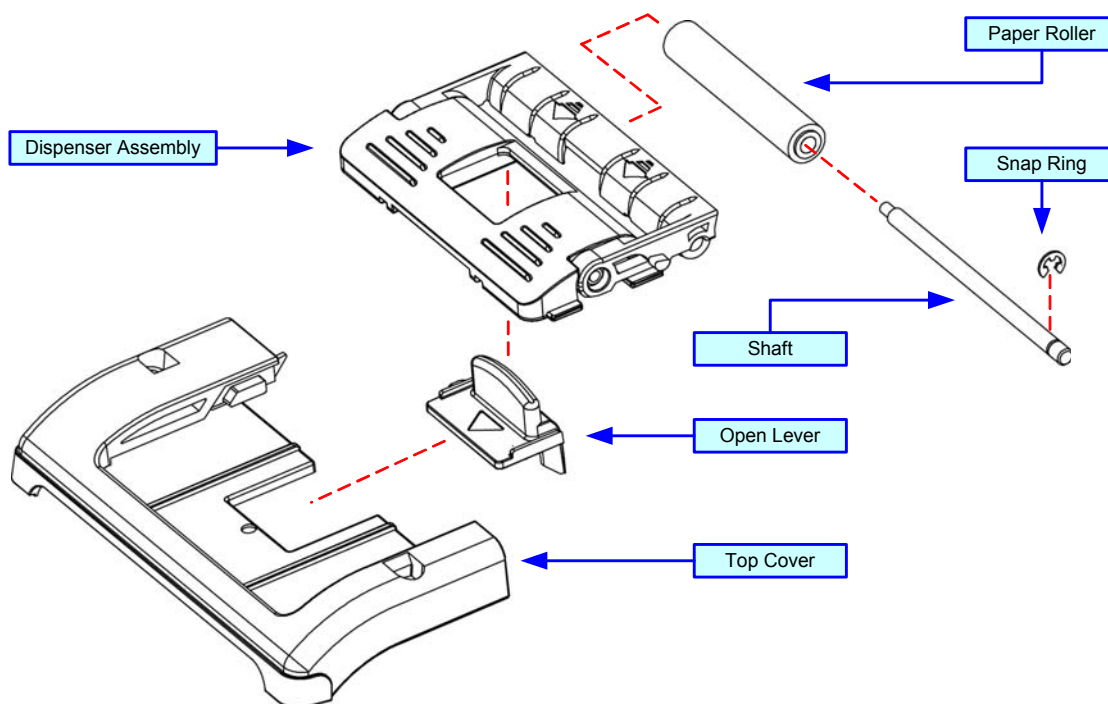

Figure 7-4, Dispense Roller Replacement
- 2 Remove the top cover from the printer to remove the dispenser assembly (Figure 7-4).